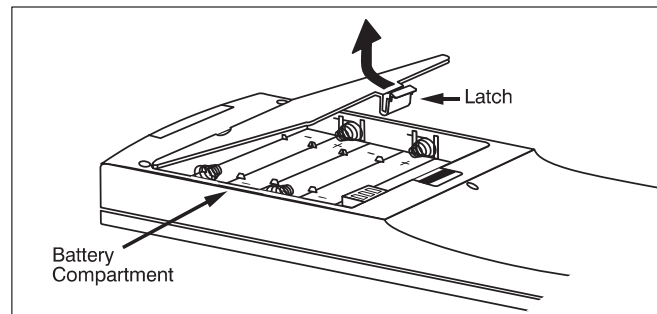

Figure 2-54 Opening the Remote
1. Unlatch and open the battery compartment on the back of the remote as shown in Figure 2-54.